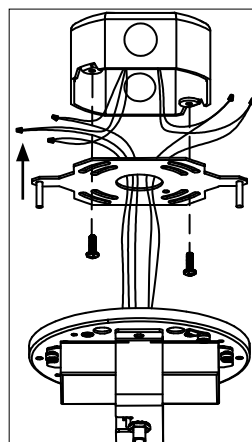

Figure 2: Mounting Kit (Generic)
5. Attach mounting kit onto 4" octagonal wiring box using [2] (provided) Phillips head screws. [Figure 2]